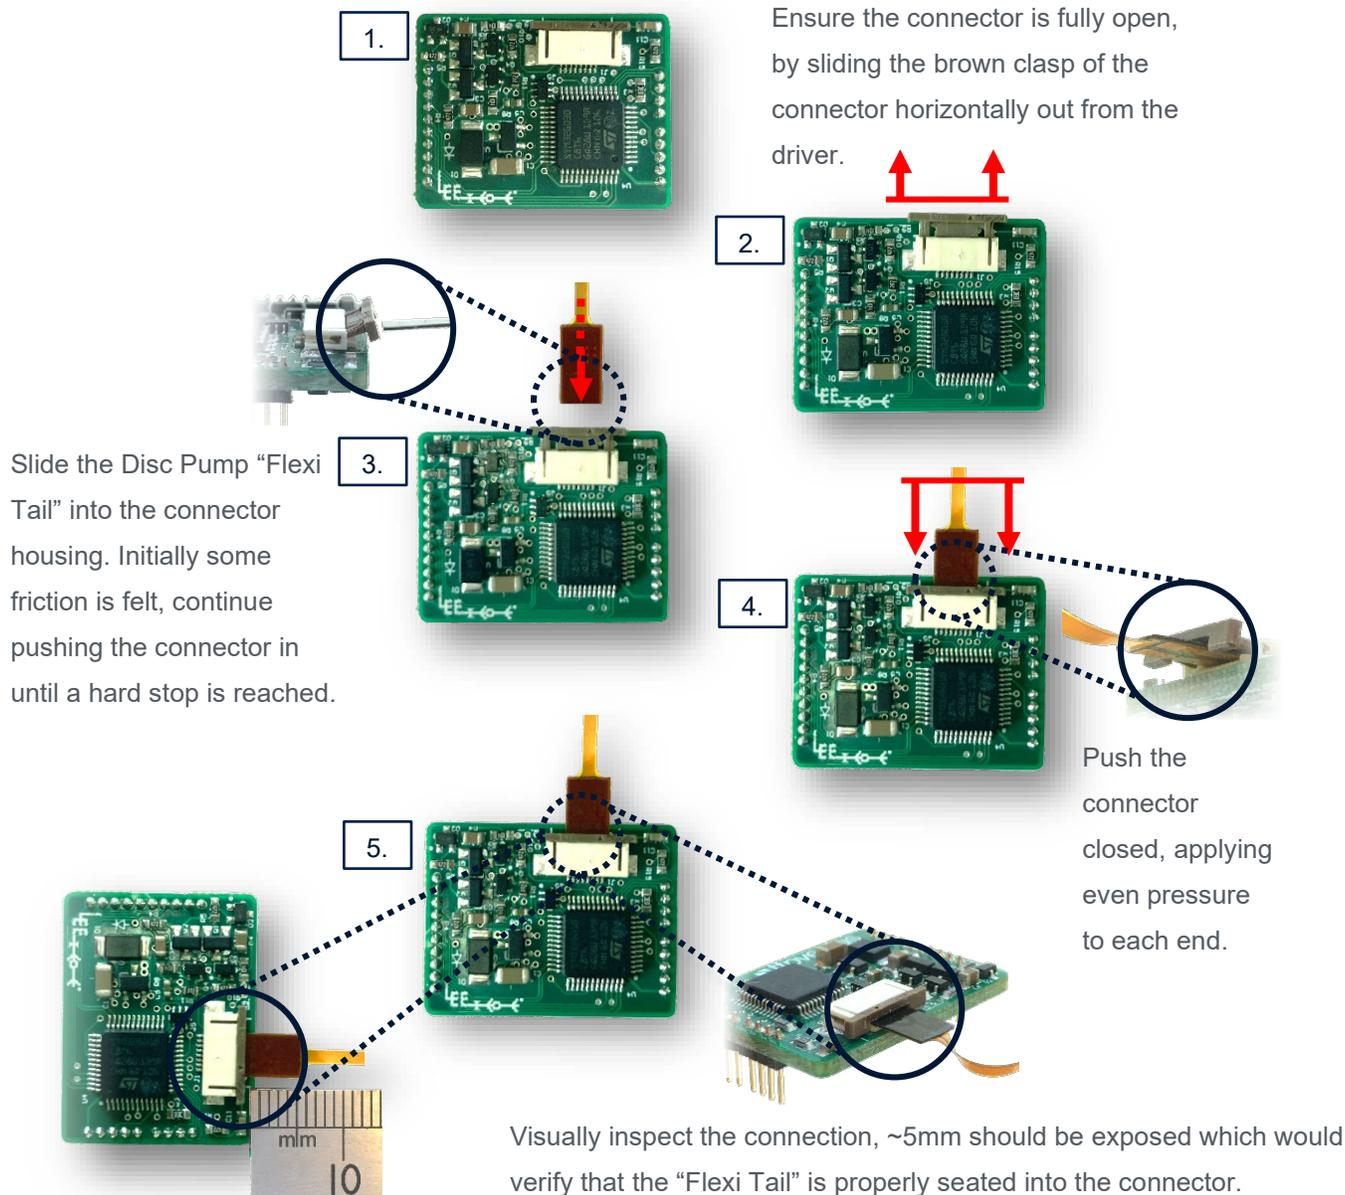

Figure 19. FFC connecting and reverse for removal
The disc pumps use an FFC (flat flex connector) compatible with most 8-way 0.5mm pitch FFC connectors. The Disc Pump Driver PCB has such a connector, and it is important that the disc pump “Flexi Tail” is properly seated in this connector, see Figure 19 below. Once the pump is mounted and the system powered, the Disc Pump Control app can be used to control the pump as outlined in Section 10.
- Pull out the brown clasp evenly on the FFC connector (reverse of Figure 19) so that it is in the open position.
- Remove the pump flexi-tail from the FFC connector (reverse of Figure 19).